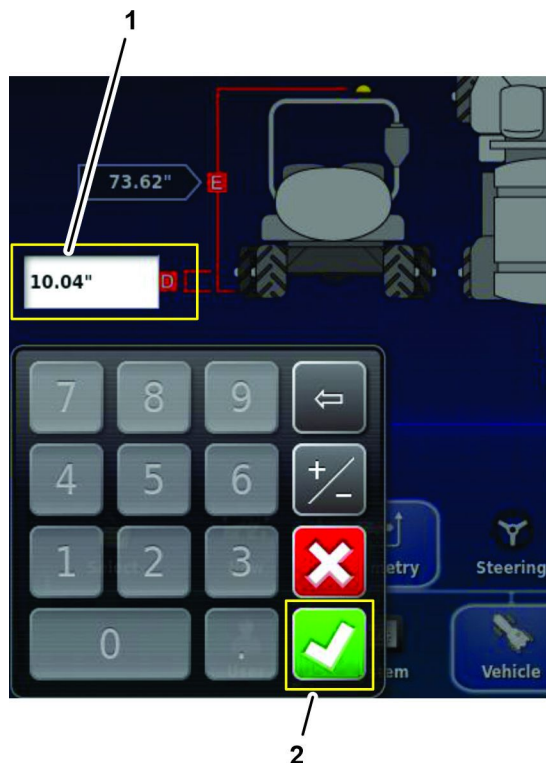

Figure 192
1. Machine centerline and satellite receiver center icon (C)
4. Press the rear axle centerline and ground icon (D), use the on-screen keypad to enter the measurement that you recorded in the vehicle-geometry form of Measuring the Vehicle Geometry \(page 82\), and press the confirm icon (Figure 192).